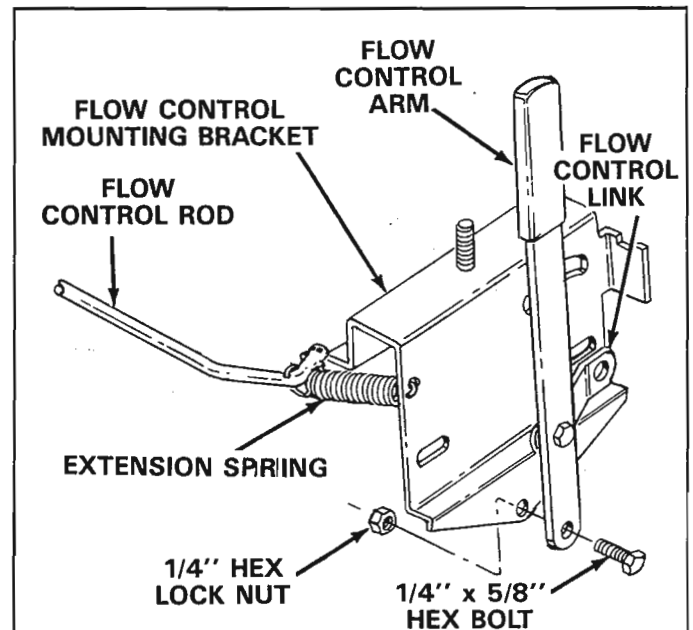

FIGURE 11
17. Assemble the flow control arm to the flow control mounting bracket using one 1/4" x 5/8" hex bolt and one 1/4" lock nut. See figure 11. **DO NOT OVER TIGHTEN, FLOW CONTROL ARM MUST PIVOT FREELY.**
18. Hook one end of extension spring through small hole near bend in flow control rod and the other end through hole in flow control mounting bracket. See figure 11.